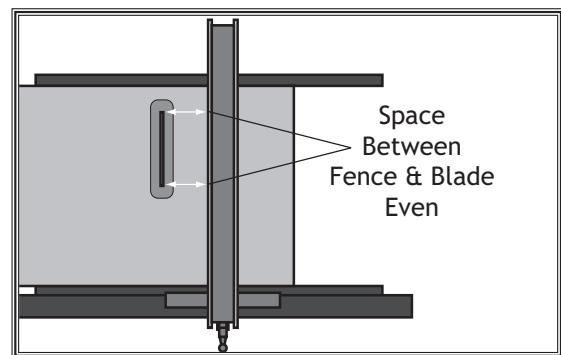

Figure 106. Example of fence aligned parallel to miter slot.
6. Rotate the blade to the other end of the table insert (see **Figure 106**), and recheck the distance between the fence and the blade to ensure they are parallel.